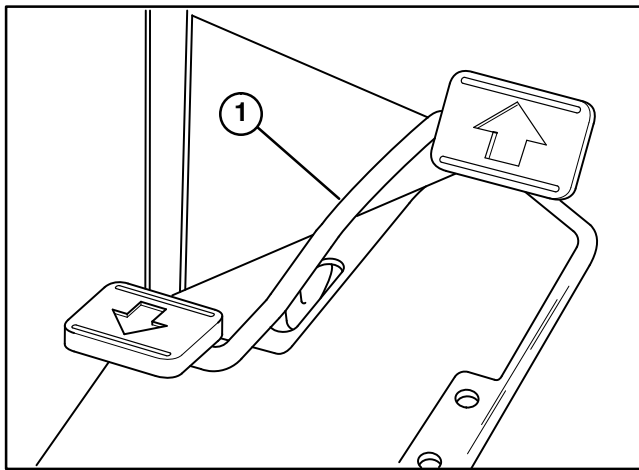
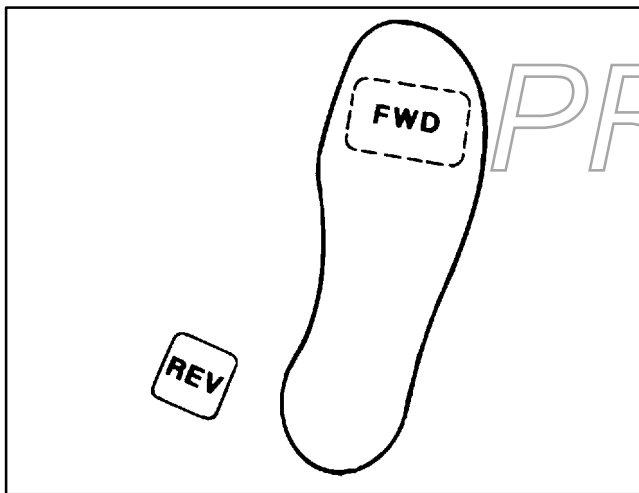

Figure 9
Figure 10
**Traction and Stopping Pedal** (Fig. 9–10) – Traction pedal has three functions: one, to make the machine move forward, two, to move it backward and three, to stop machine. Using the heel and toe of the right foot, depress top of pedal to move forward and bottom of pedal to move backward or to assist in stopping when moving forward. Also, allow pedal to move or move it to neutral position to stop machine. **For operator comfort, do not rest heel of foot on reverse when operating forward (Fig. 10).**